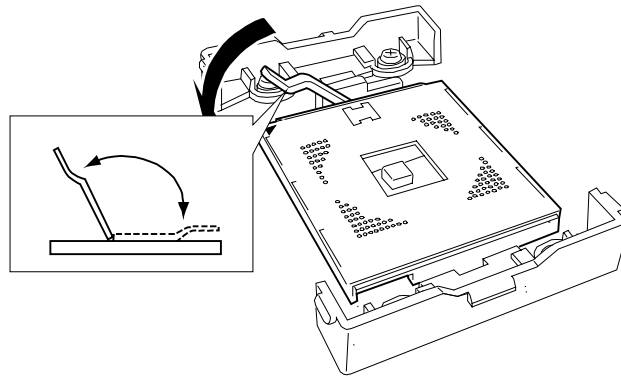

Figure 4-13. Raising the Processor Locking Lever
6. Raise the processor locking bar on the socket. See Figure 4-13.
7. Raise the locking bar on the socket. See Figure 4-13.